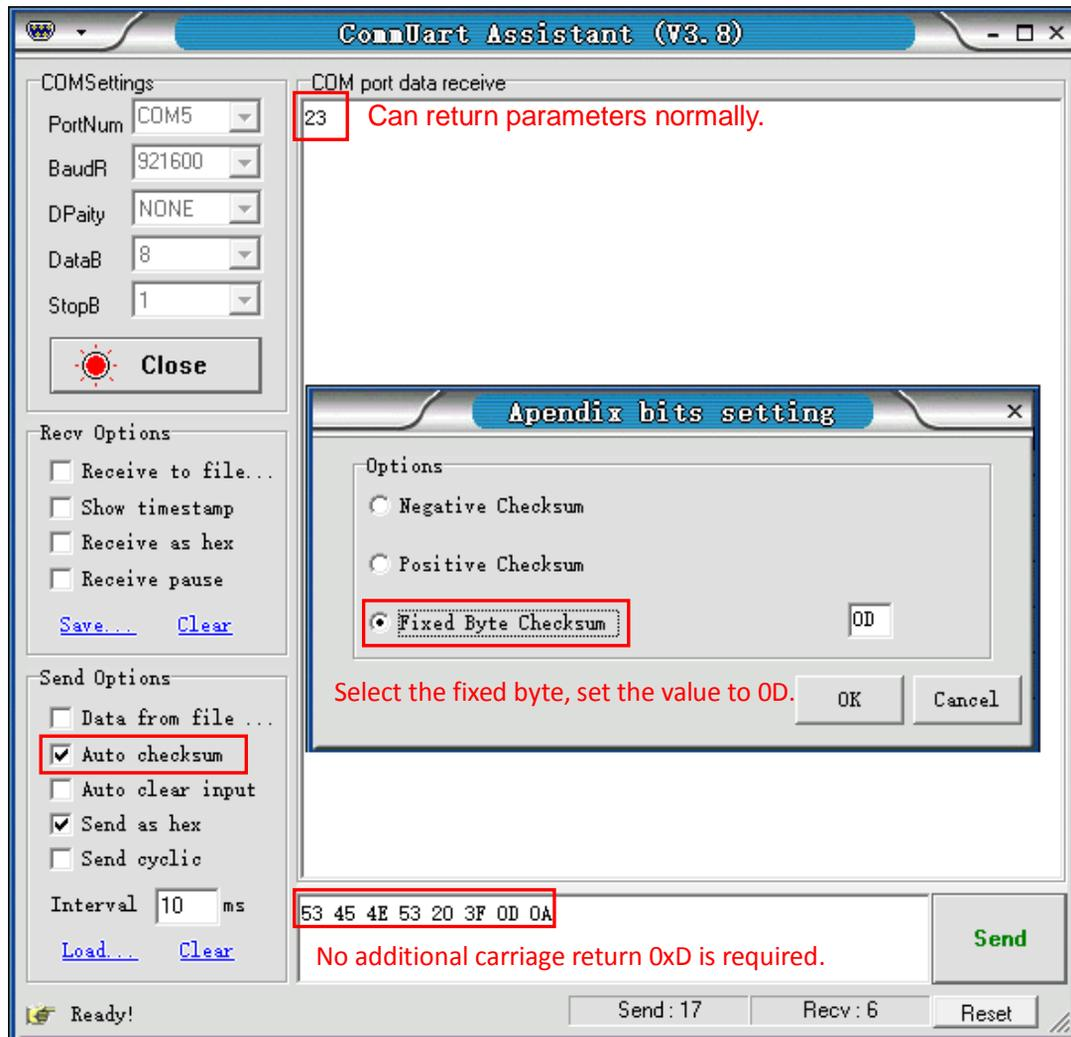

Fig.77 Setting the checksum
2) The serial assistant can be configured to automatically add carriage return 0X0D. You just need to click **Auto checksum** and choose **Fixed Byte Checksum**. Finally, set the additional digit to <0D> as Fig.77.